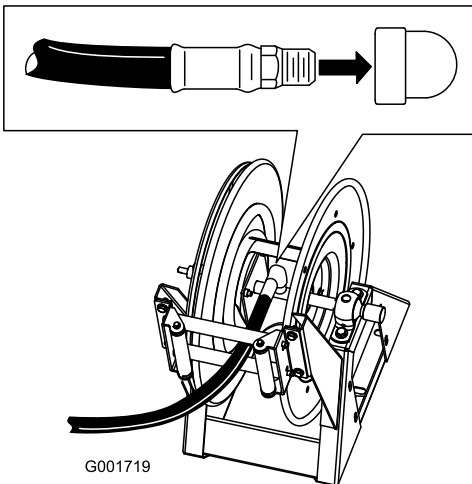

Figure 16
1. Wrap Teflon tape around the threads of the hose fitting on the long hose and install the fitting into the connecting tube on the reel (Figure 16).